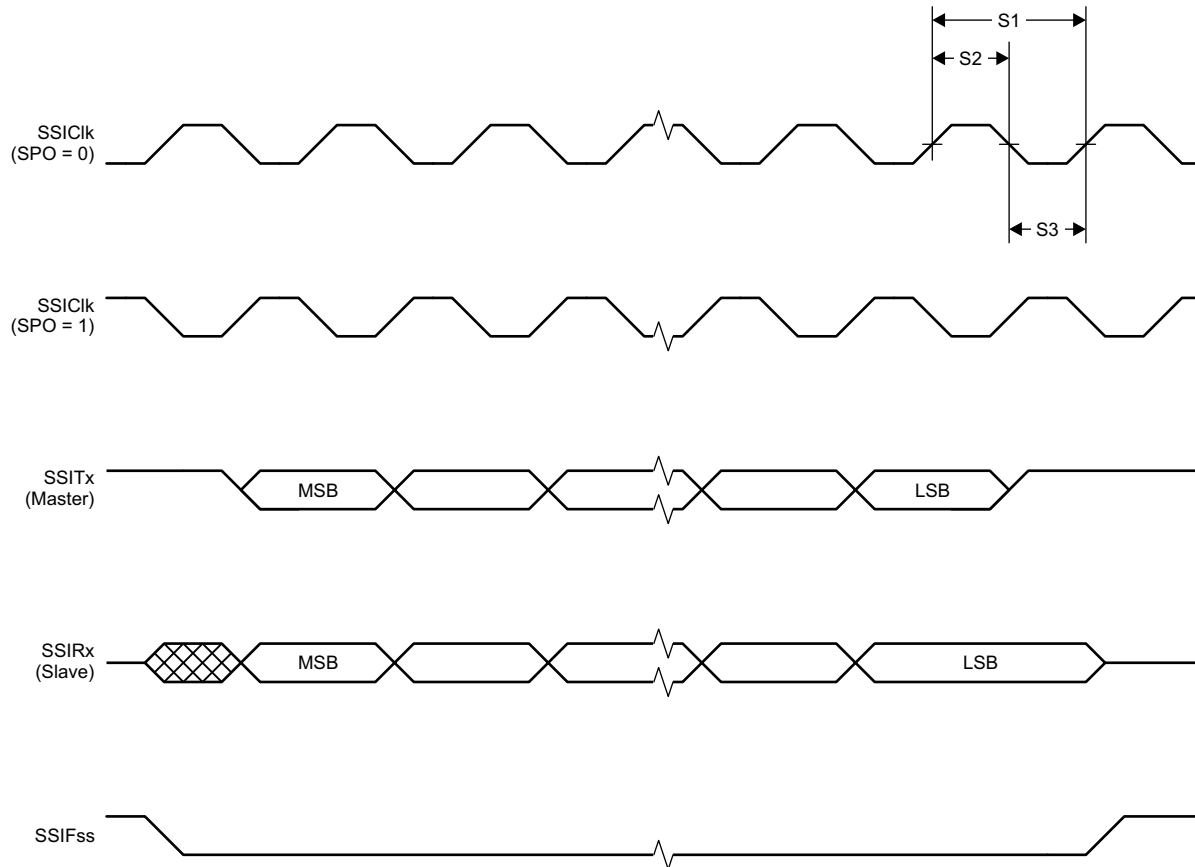

图 5-4. SSI Timing for SPI Frame Format (FRF = 00), With SPH = 1
(1) When using the TI-provided Power driver, the SSI system clock is always 48 MHz.
(2) Refer to SSI timing diagrams 图 5-2, 图 5-3, and 图 5-4.